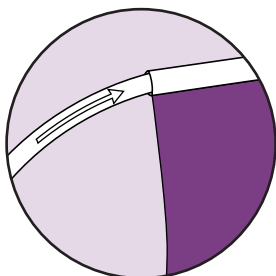

Fig 6.
7. Slide the sleeve of the flag over the curved tube and down onto the main pole. (see fig 6)